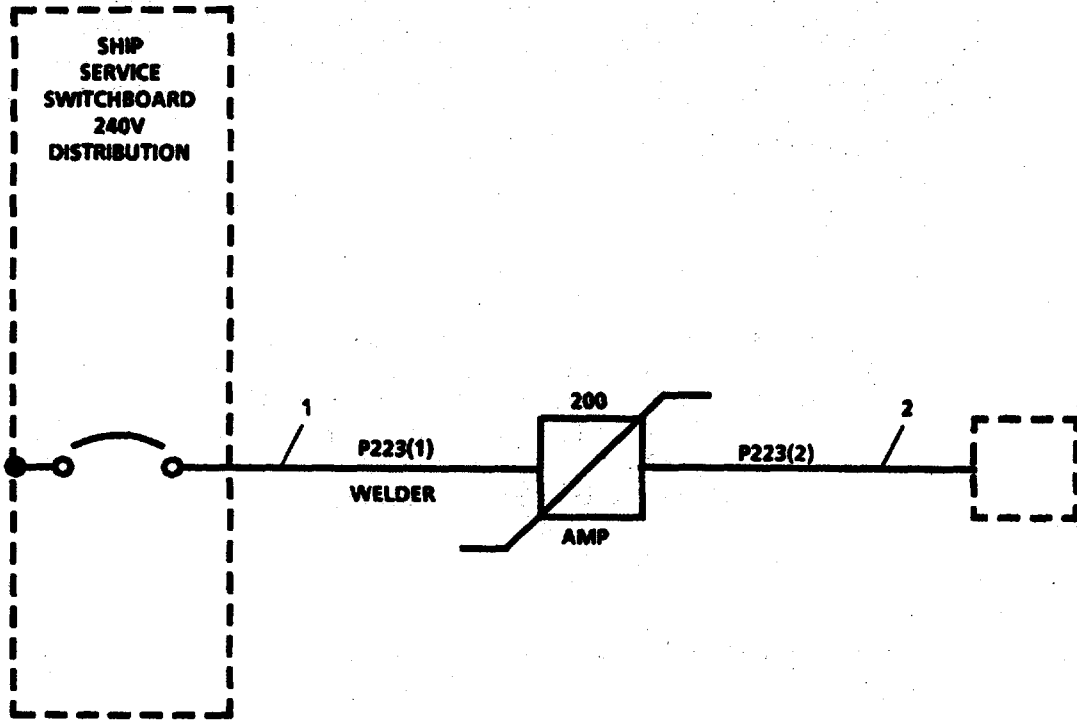

FIGURE 3-147. *Welder Power Distribution.*
**3-161. Repair Boat Davit Power Distribution. (Figure 3-147).**